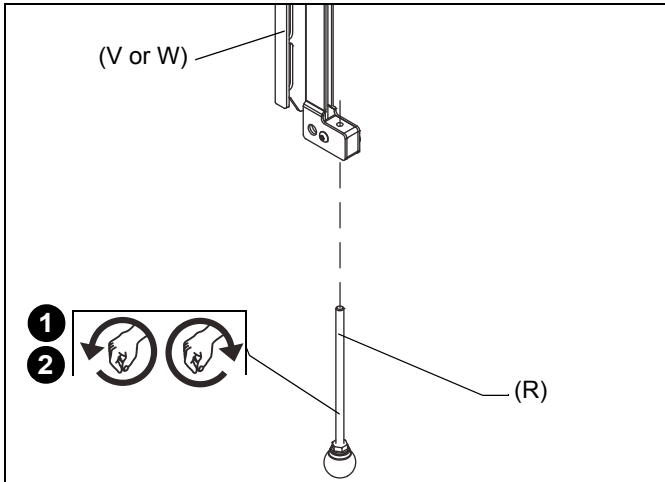

Figure 13
1. If necessary due to height of tall screen, add pull knob (R) to bottom of interface brackets (V and W) to allow easier accessibility for adjustment purposes. (See Figure 13)
2. Adjust length of pull knob so it is not visible below screen. (See Figure 13)